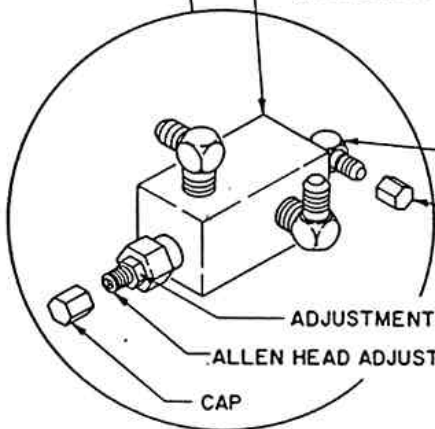

**FIG. 3**
- { (Figure 3) Loosen locking set screw on flow regulator valve and turn adjustment knob all the way counter clockwise for maximum flow.
- { Close flow regulator valve by turning adjustment knob all the way clockwise (Figure 3). CAUTION: DO NOT OVER TIGHTEN!
- { (Figure 3) Engage PTO and insure pump flow is 6 to 7 GPM and main relief is set to 2350 psi. With no load on boom, boom up to an angle of 75 degrees. Boom down and adjust the flow regulator adjustment knob to achieve a boom down time of 37 seconds from 75 to 0 degrees.